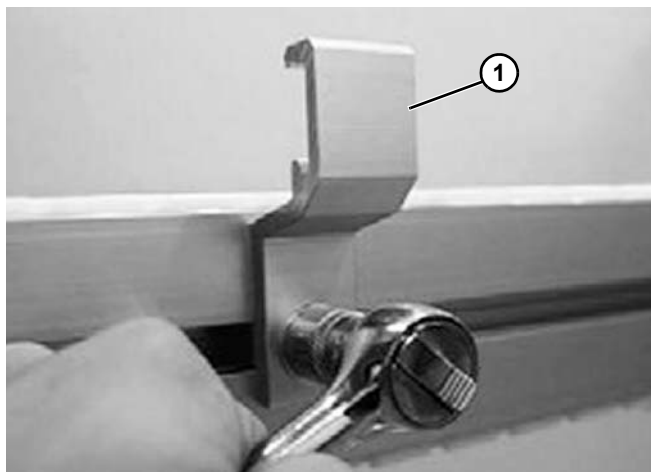

Figure 105
1. Fasten a fixed guide rail bracket support (**Figure 105, item 1**) to the conveyor beam using T-bolt.